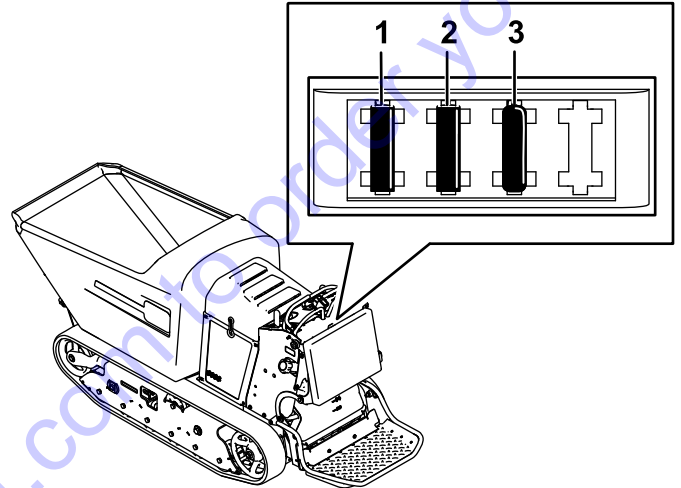

Figure 34
2. Pull out the fuse to remove or replace it (Figure 34).
Note: Ensure that the correct-size fuse is installed Figure 34.